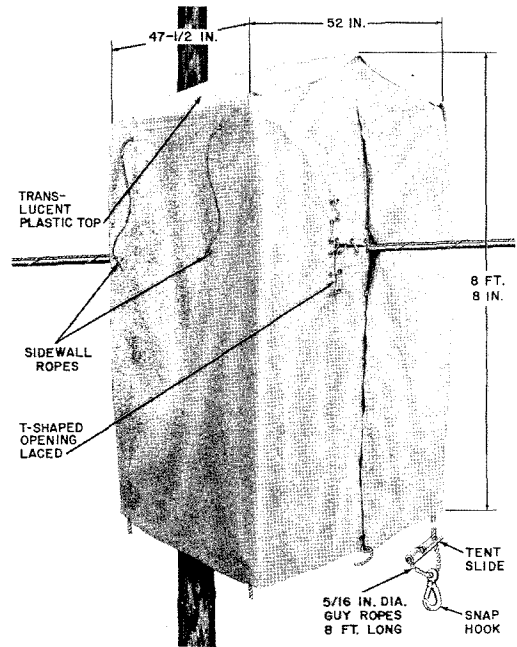

Fig. 1 — H Aerial Tent
2.01 The H Aerial Tent (Fig. 1) is a compact, lightweight folding tent designed for installation and removal by one man. The complete tent weighs about 30 pounds.